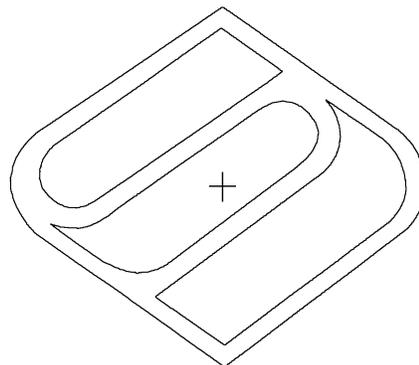

Figure 5-65
For digitizing a complex fill we will use the Saurer logo outline shown in Figure 5-65.
4. Locate the file named scomplx.pcx and load it into the EDS III Object Edit window. When loaded properly the image on the display will look similar to the illustration in Figure 5-65.